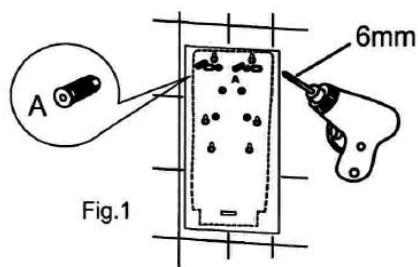

Fig.1
2. Drill two holes dia. \varnothing 6mm, insert plastic dowels . (Fig. 1)